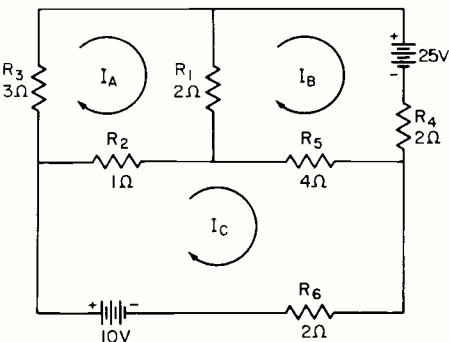
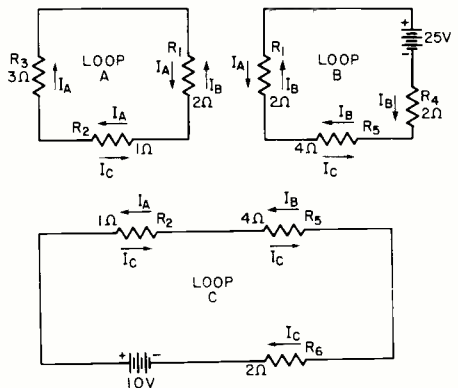

FIG. 9. Practice network problem.
FIG. 10. Network circuit of Fig. 9 divided into three loops.
Would you like to tackle a network problem on your own? Then how about the one shown in Fig. 9? We gave you a good start by drawing the loop currents and also drawing Fig. 10. Work this problem the same way we worked the one in this article. HINT: be careful when you write equation (C); the voltage source is not aiding loop current. I'll give you the answers on page 28. Remember, to succeed, just follow the four rules of the game.